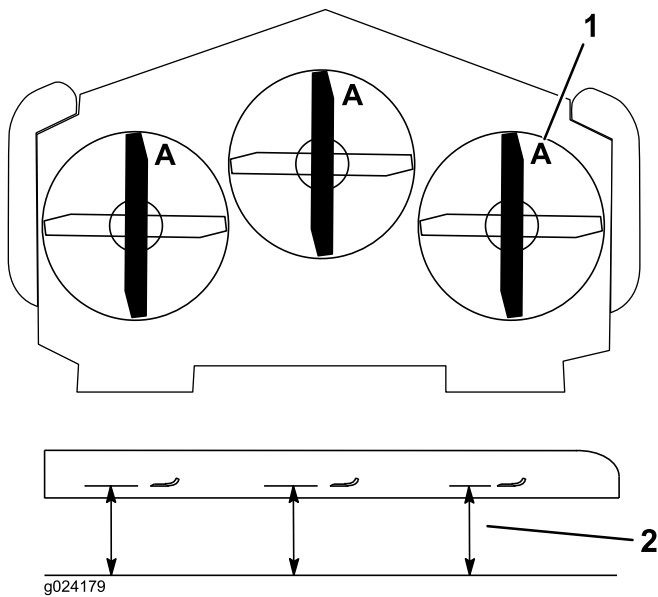

Figure 96
3. Rotate the blades until the ends face forward and backward (Figure 96). Measure from a level surface to the cutting edge, position A, of the blades (Figure 96). Note this dimension.